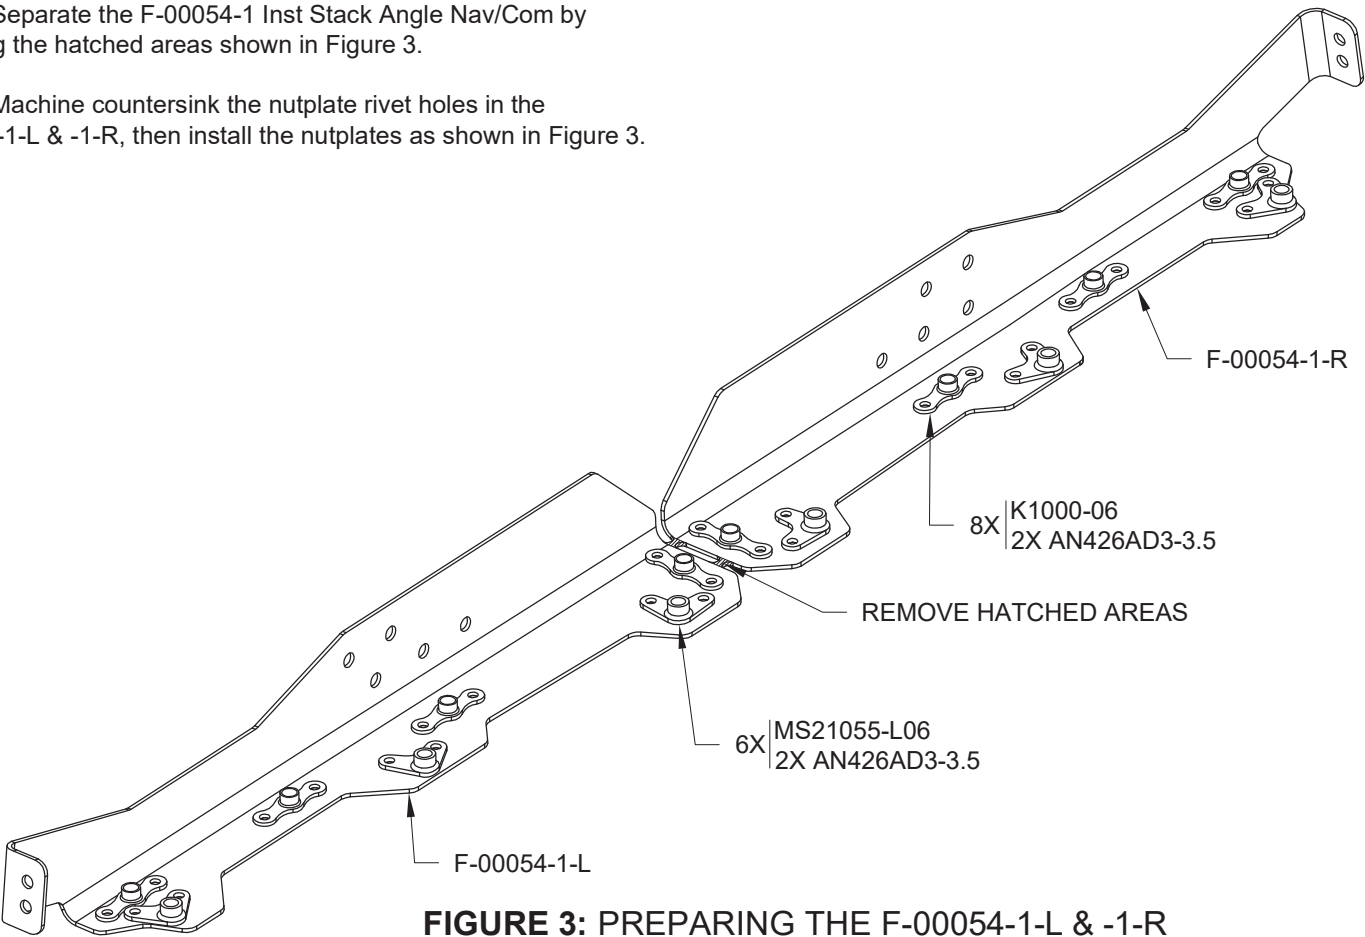

FIGURE 3: PREPARING THE F-00054-1-L & -1-R
Step 5: Separate the F-00054-1 Inst Stack Angle Nav/Com by removing the hatched areas shown in Figure 3.
Step 6: Machine countersink the nutplate rivet holes in the F-00054-1-L & -1-R, then install the nutplates as shown in Figure 3.